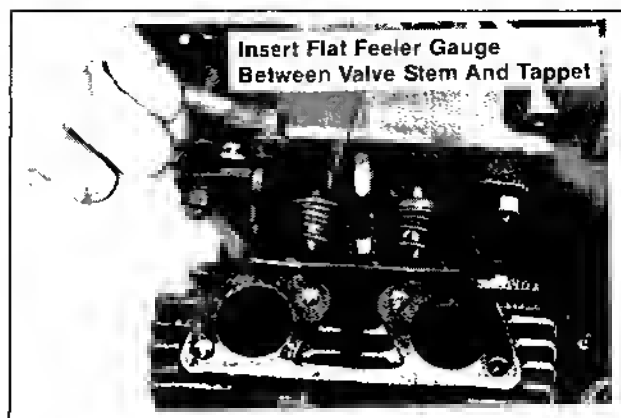

Figure 11-32. Measuring Valve-to-Tappet Clearance.
2. Install valves into valve guides for the cylinder in which no movement was observed. Hold valves firmly against seat and measure valve-to-tappet clearance with a flat feeler gauge. Refer to Figure 11-32.